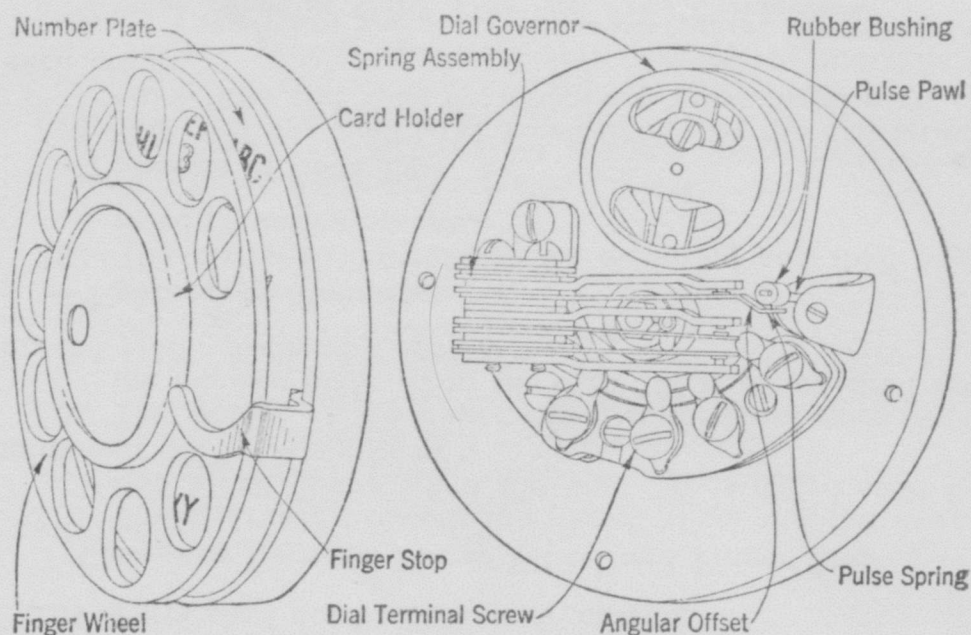

Fig. 1.
2.01 Parts of dials of the types referred to herein are shown in Fig. 1.